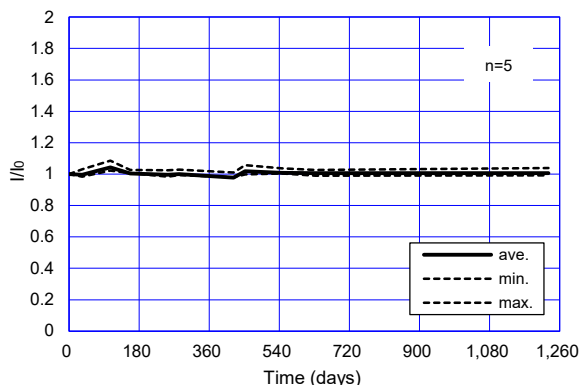

Fig. 8 - Long term stability of FECS42-20
Figure 8 displays long term stability data of FECS42-20 showing the sensitivity to 10ppm of NO₂ measured using the basic measuring circuit. The Y-axis shows the ratio of output current in 10ppm of NO₂ at any point in time (I) over output current in 10ppm of NO₂ on the first day of the test (I₀). Sensors were stored unenergized in normal air between each measurement day. This chart demonstrates very stable characteristics for more than 2 years.